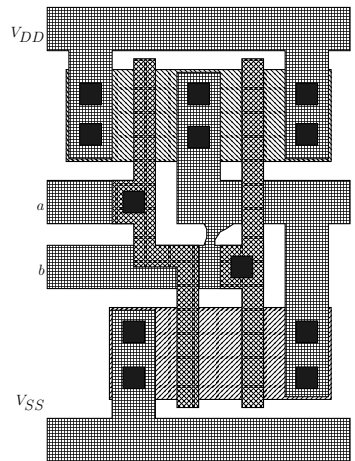

Figure 2: Corrupted layout.
7. A dust particle did something horrible to a mask, causing the implemented layout to differ from the designed layout. Consider the corrupted layout shown in Figure 2.